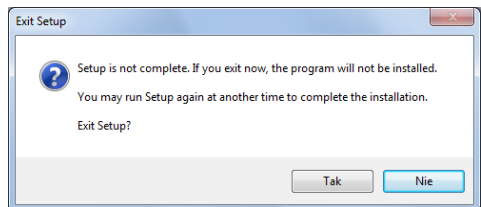

Fig. 38 – request for confirmation of aborting the installation before it is complete
- Installation can be aborted in any moment by clicking the **Cancel** button in the bottom right corner of the dialog box, but in such case program will not be installed. This is why the program will ask if the user really intend to abort the installation (Fig. 38);